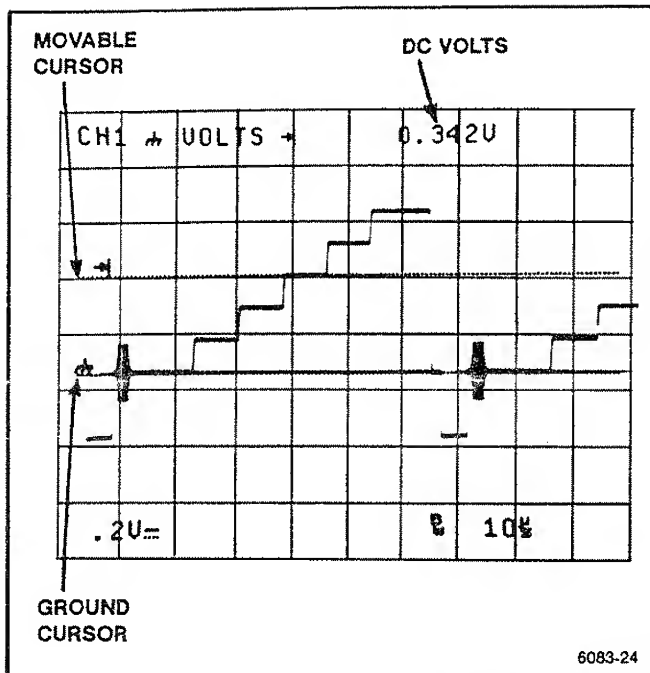

Figure 6-10. Instantaneous dc voltage measurement.
3. Position the independent cursor using the \rightarrow or Δ control to the measurement point on the waveform and read out the dc value of the cursor position (shown in Figure 6-10). (The \leftarrow or DELAY control has no effect.)
The test signal used for illustration purposes shown in Figure 6-10 is a video test signal. For triggering on video waveforms, select TV LINE Trigger COUPLING and negative Trigger SLOPE; for other signal types, no change of COUPLING or SLOPE is required.